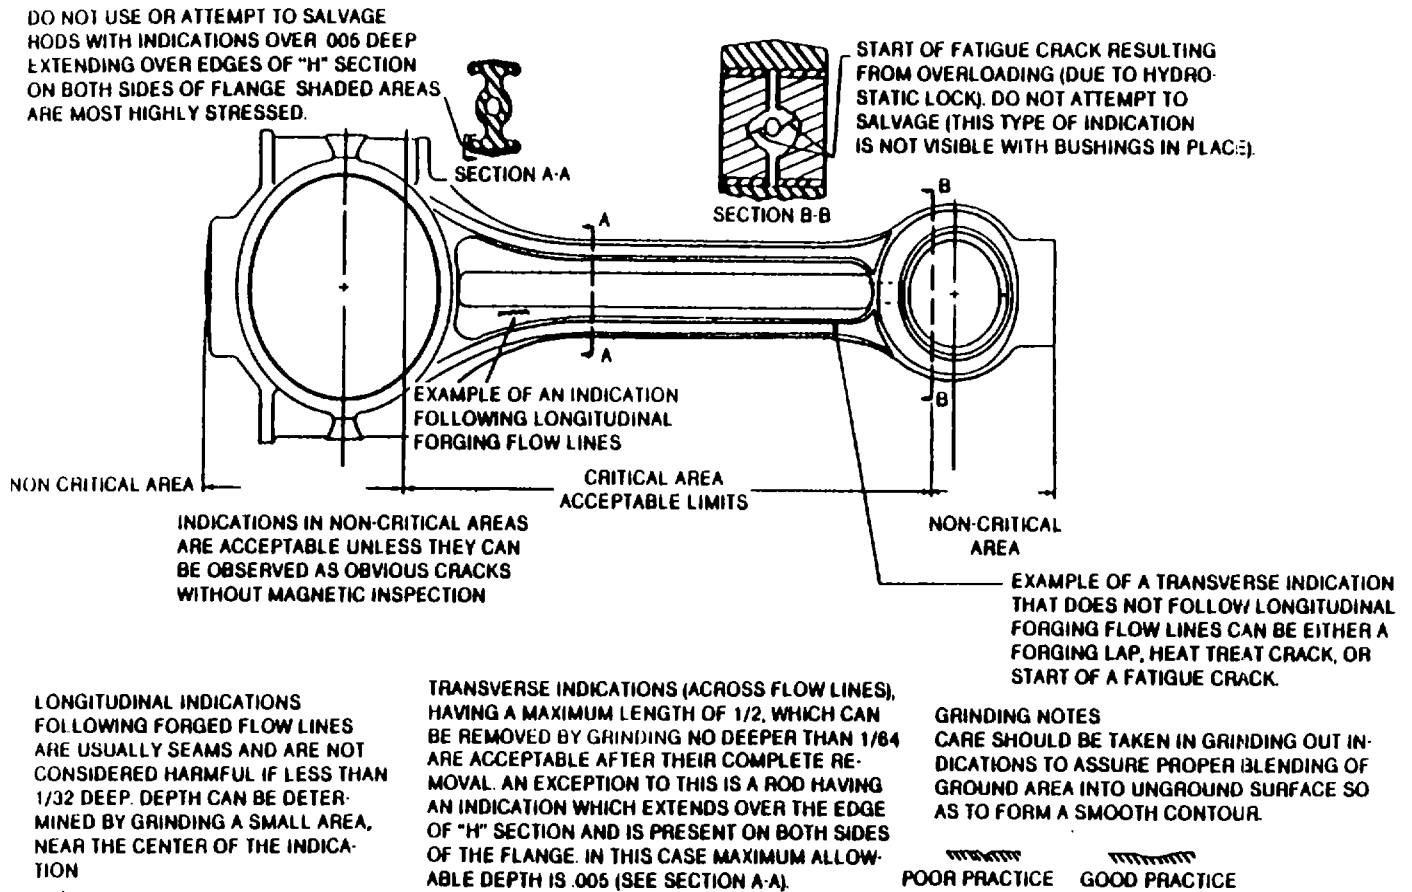

Figure 6-28. Connecting Rod Magnetic Particle Inspection Lines.
(8) Inspect and open holes in spray nozzle. Blow dry compressed air through drilled oil passages in rod and nozzle to make sure all passages are open.
(9) Refer to Figure 6-28 for connecting rod magnetic particle inspection limits.
(10) Refer to Table 1-1 and inspect connecting rod bushings for scoring, indications of overheating, or other damage. Bushings that have overheated may become loose and creep together, thus blocking off lubricating oil to piston pin bushing and spray nozzle.
(11) Replace piston pin bushing and spray nozzle as follows: